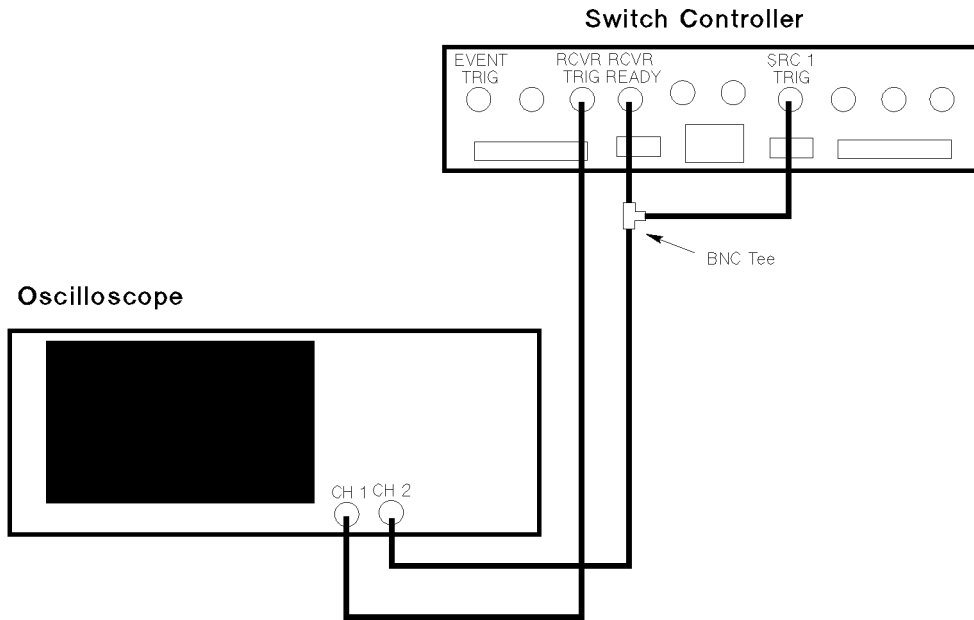

Figure 2-3 Counter Pulse Delay Test Setup
1. Connect BNC cables between the SRC1 TRIG, RCVR READY connectors and the oscilloscope as shown in Figure 2-3 on page 2-10.